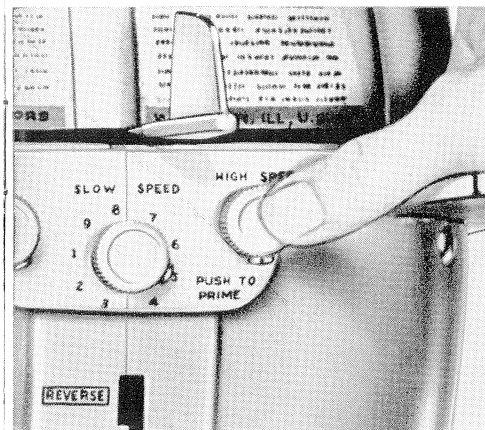

Figure 13
3. Depress primer button (on carburetor panel) several times (Fig. 13).